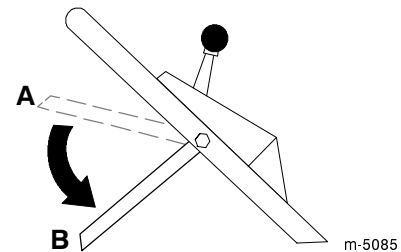

Figure 15
10. Release the blade control bail; refer to position B in Figure 15. You should hear a “bang.” The blade should stop in three seconds.
2. Move the blade control bail down to its lowest position (Position B in Fig. 15).